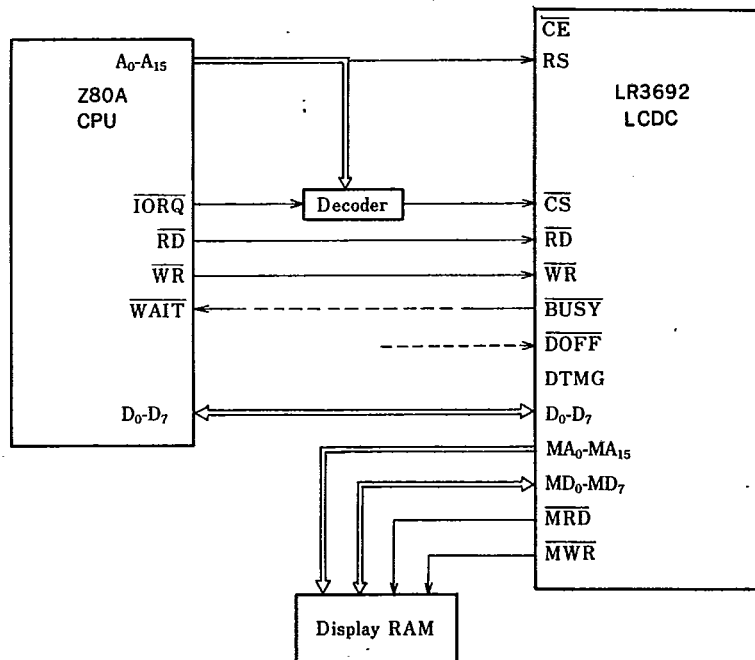

Fig. 1 Interface with CPU(I/O mode)
As shown in Figs. 1 and 2, the LR3692 (LCDC) is connected to the standard bus of the Z80-type CPU, which controls data communication with the CPU.
① I/O mode A sample system configuration for I/O mode access is shown in Fig. 1. A value for $0CH$ is first set into the command register. If the $BUSY$ is high, CS is low, and RS is low, the RD , WR , and D_0-D_7 lines are linked to the MRD , MWR , and MD_0-MD_7 lines, respectively. At this time the value of the Cursor Address register is output at the MA_0-MA_{15} pins. The Cursor Address register is incremented at the rising edge of the RD or WR signal. The $BUSY$ line is set to high during the fly-back period in which the LCDC does not access the display RAM. Setting the $DOFF$ to low causes the $BUSY$ to be set to high, making the display RAM accessible at any timing. At this time, the LCD display is turned off.